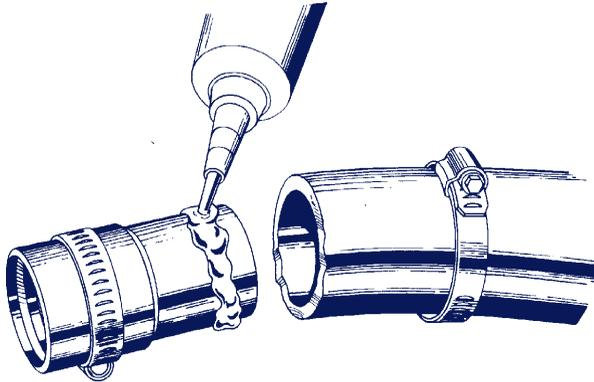

FIG. 13 – IF A SEALANT IS USED WHEN FITTING A HOSE, IT SHOULD BE APPLIED TO THE OUTER SURFACE OF THE ADAPTER ONLY.
- If a sealant is used when fitting a hose, it should be applied to the outer surface of the adapter. Do not apply sealant to the inside of the hose; it will only be pushed further inside by the adapter, where it will solidify and cause a blockage. (Fig. 13)